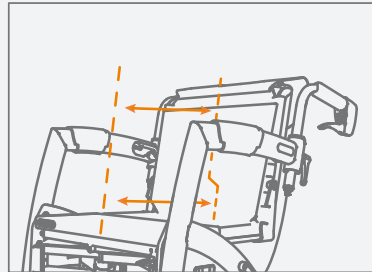

Figure 53: Lower two back straps loosened.
- d. In most cases, the lower straps will be adjusted looser than the upper two straps (**Figure 53**). Attach the Velcro so that the user's pelvis is properly upright, and the backrest supports the back.